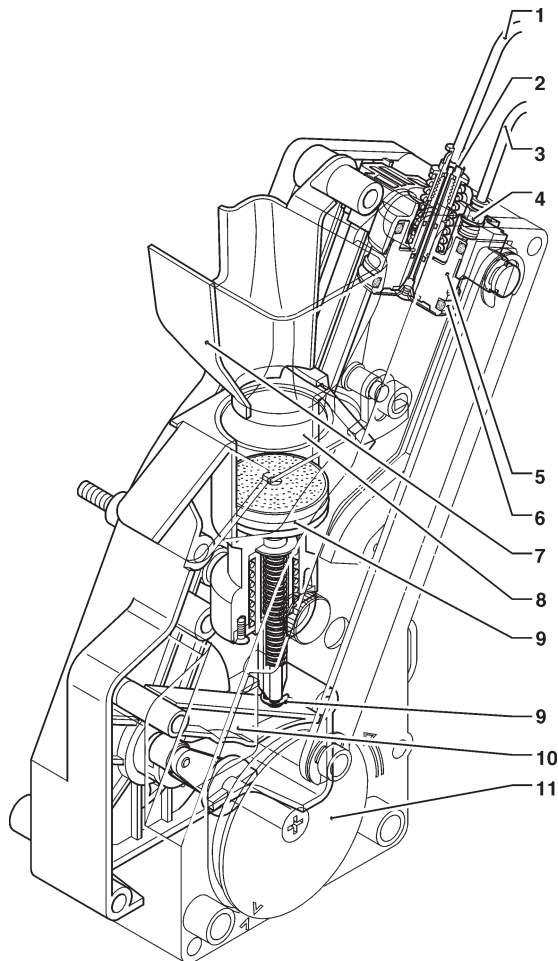

Fig. 16
When the ground coffee dose is reached, the ratiomotor engaged with the handle (11) located outside the assembly rotates by 180°, making the brew chamber swing (8) (see Fig. 16).